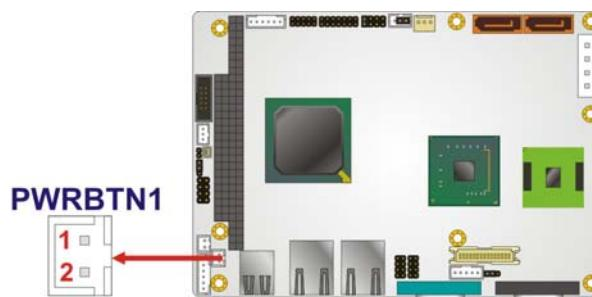

Figure 3-16: Power Button Connector Location
**CN Location:** See Figure 3-16